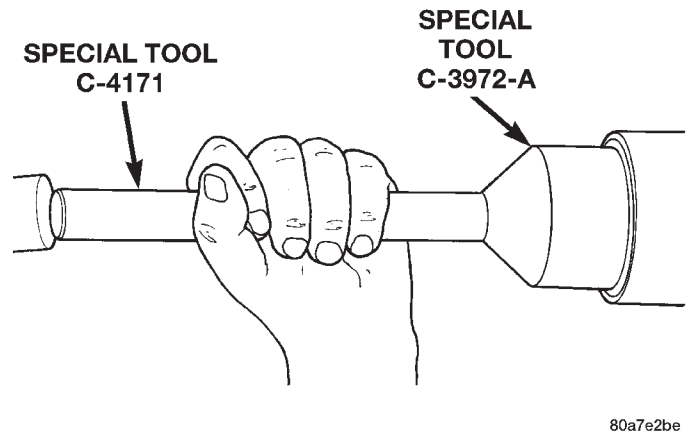

Fig. 35 Pinion Seal Installation
(4) Install front pinion bearing, and oil slinger, if equipped.
(5) Apply a light coating of gear lubricant on the lip of pinion seal. Install seal with Installer C-3972-A and Handle C-4171 (Fig. 35).